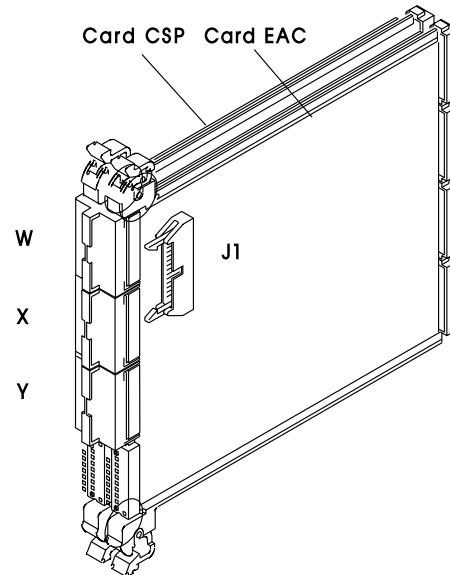

Figure 4-50. EAC Card
5. Referring to Figure 4-50, exchange the EAC card as follows: